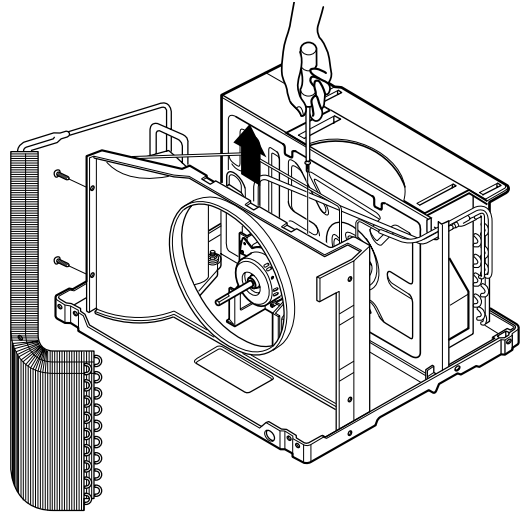

Figure 8
3. Remove the shroud. (See Figure 8)